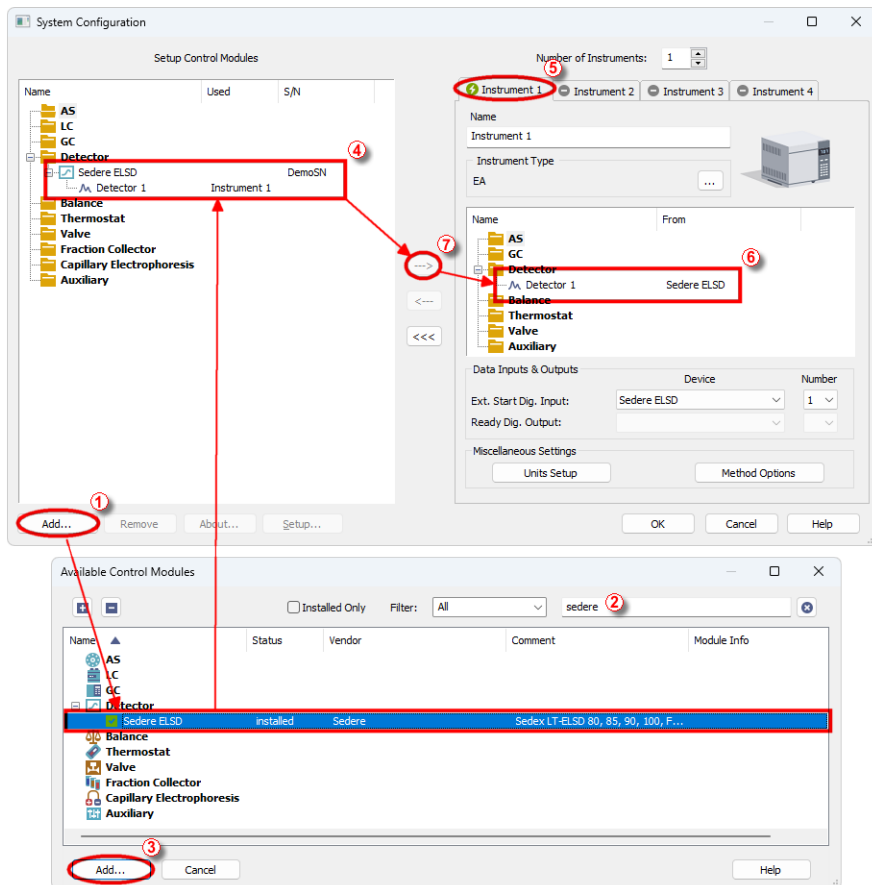

Fig. 3: System Configuration
- Press the *Add* button ① (see **Fig. 3** on pg. 4.) to invoke the *Available Control Modules* dialog.
- You can specify the searching filter ② to simplify the finding of the driver.
- Select the **Sedere ELSD** and press the *Add* ③ button.